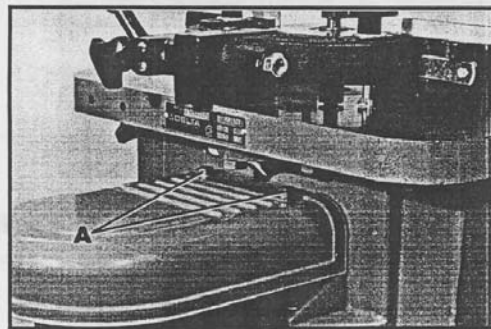

Fig. 11
Assemble belt guard to the top ledge on the rear of the shaper using the two cap screws and washers (A) supplied, as shown in Fig. 11.